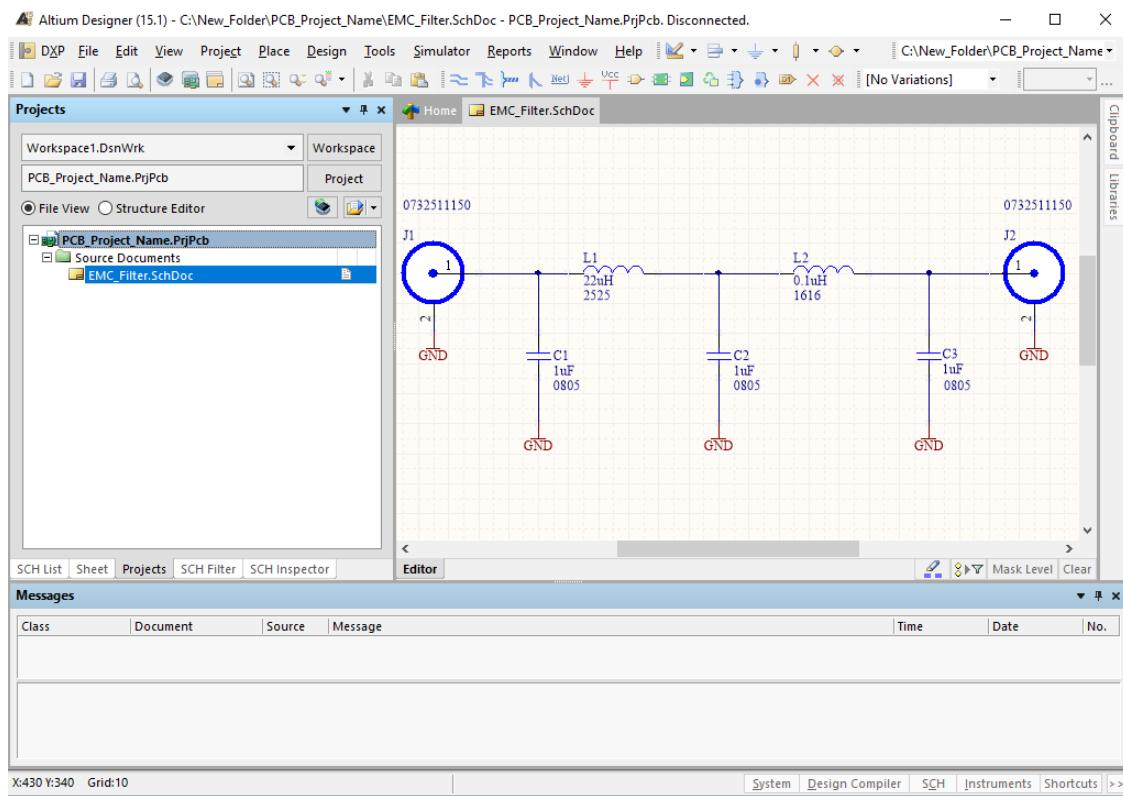

Figure 61: Altium Schematic annotated.
37. Your screen should now look similar to Figure 61, notice that the schematic is fully annotated and that the red curly lines that indicated errors are disappeared.